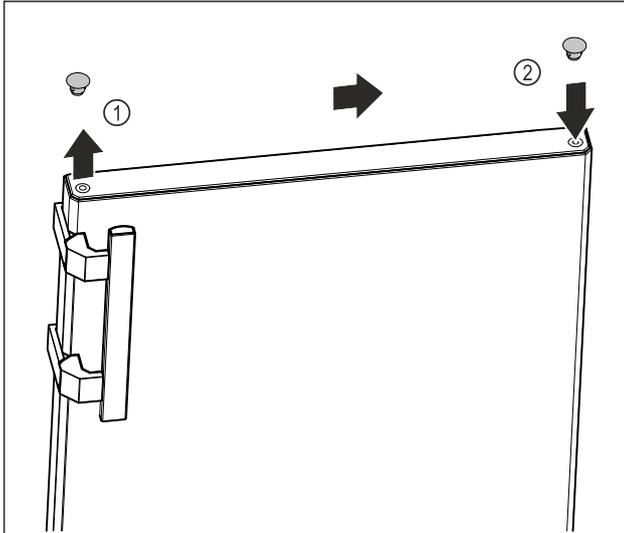

Fig. 10
- ▶ Carefully lift the cover plug on the top of the door Fig. 10 (1) using a slotted screwdriver.
- ▶ Insert the cover plug on the opposite side. Fig. 10 (2)